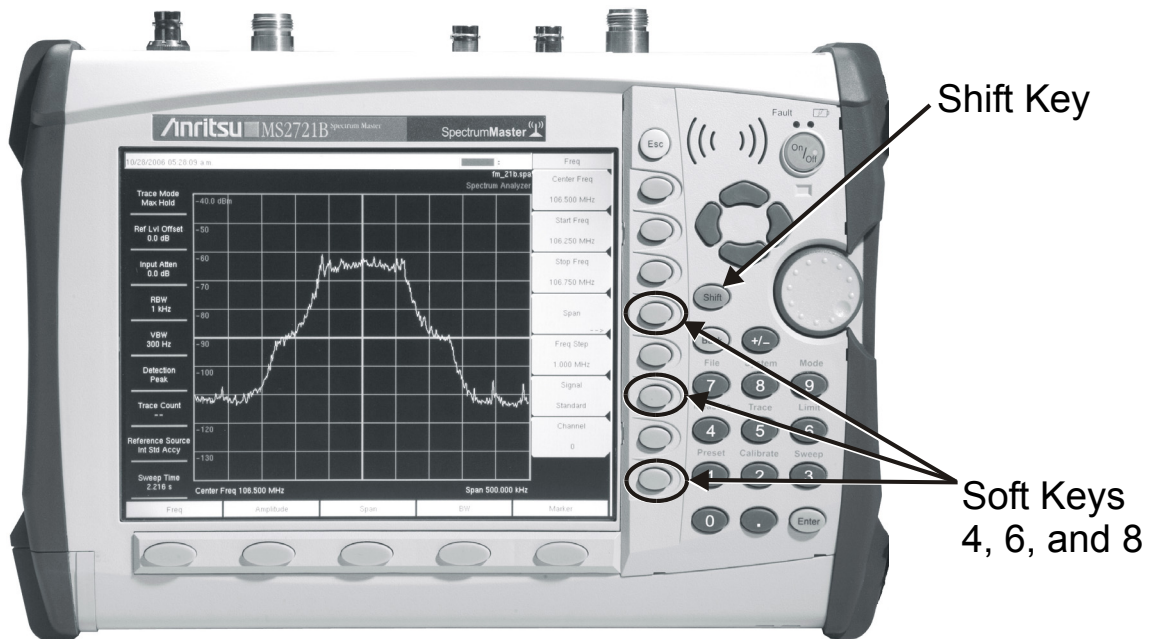

Figure 2-2. MS272xB Service Mode
11. Press and hold the **Shift** key and press the 4th, 6th, and 8th (below **Esc**) soft keys together (pressing all 4 keys simultaneously) in order to enter into the MS2721B Service Mode (Figure 2-2)